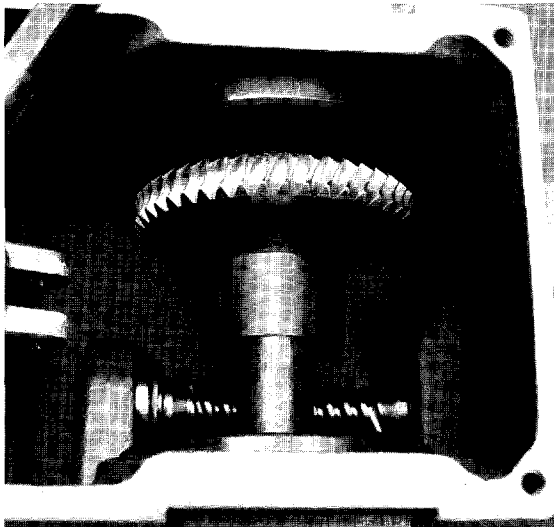

Fig. 55
2. Place the eccentric shaft assembly in the gearbox without the rear connecting rod and turned 180°, so that the gears are not meshing. (Figure 55.)